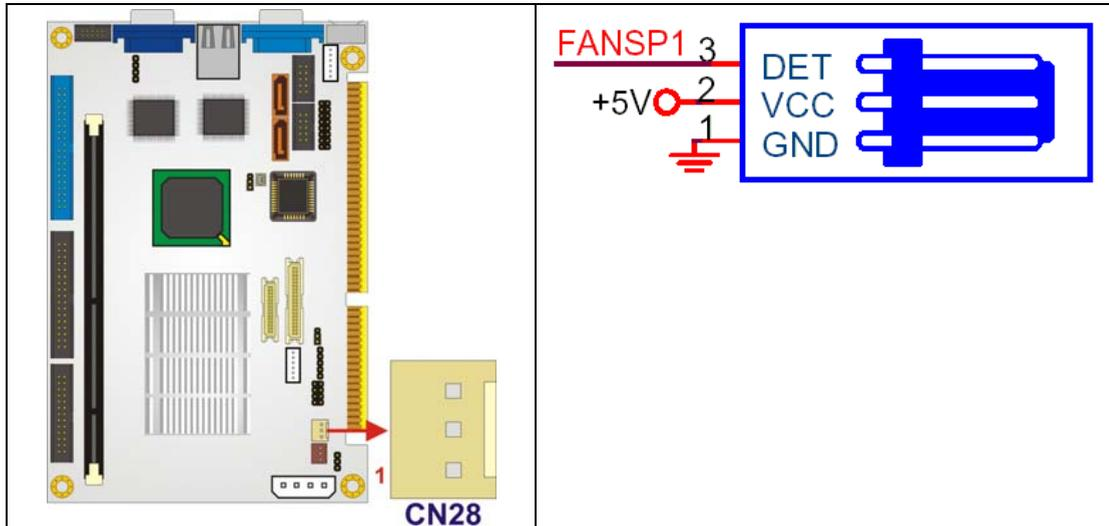

Figure 4-11: +5V Fan Connector Location
- CN Location:** See Figure 4-11